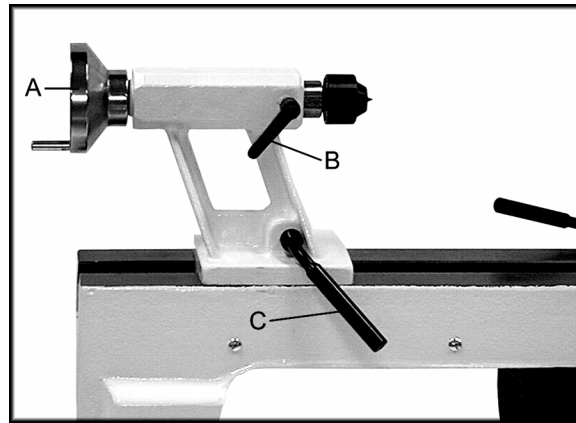
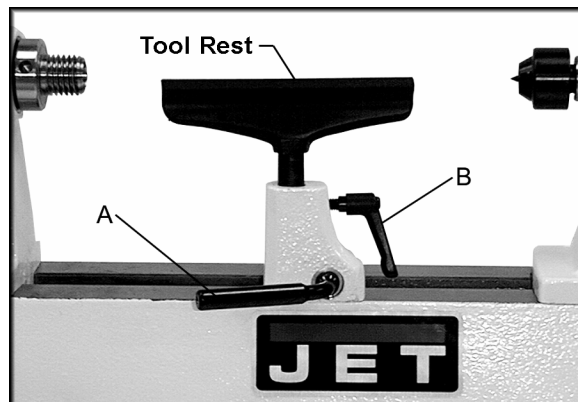

Figure 2
Figure 8
Tailstock Handwheel (A, Figure 2) – Turn clockwise to move tailstock spindle forward. Turn counterclockwise to retract tailstock spindle.
Tailstock Spindle Lock (B, Figure 2) – Locks tailstock spindle. Release to adjust with handwheel.
Tailstock Lock (C, Figure 2) – Locks tailstock in position on the bed. Release to move the tailstock assembly closer to or farther from the headstock.
**Tool Rest** (Figure 8) – Attaches to the bed. Used to steady the cutting tool during spindle turning or face plate operations.
Position the tool rest (Figure 8) as close to the workpiece as possible. It should be 1/8" above the centerline of the workpiece.
Position the tool rest base on the bed by releasing the locking rod (A, Figure 8) and sliding base to the desired position. Tighten locking rod to fix the position of the tool rest base.
Adjust the height of the tool rest by loosening the handle (B, Figure 8) and raising or lowering tool rest.
NOTE: The lock handles (B, Figure 2 and B, Figure 8 for example) are adjustable. Simply pull up on the handle, rotate it on the pin, and then release. Make sure the handle seats itself properly upon the pin.